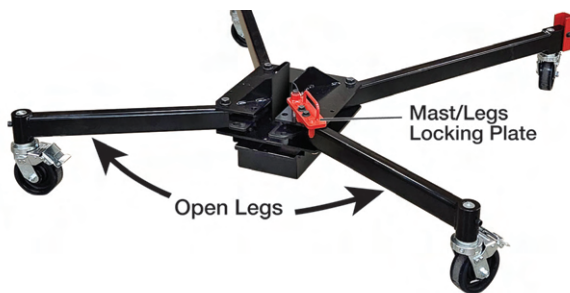

Figure 6-1: Pivot Legs to Widest Position
2. Release the red mast/legs locking plate on the base by lifting and rotating to the open position (see Figure 6-1). Pivot legs out to their widest setting for maximum stability. Do this by grasping the legs near the caster cylinders and moving the legs outward. See Figure 6-1.